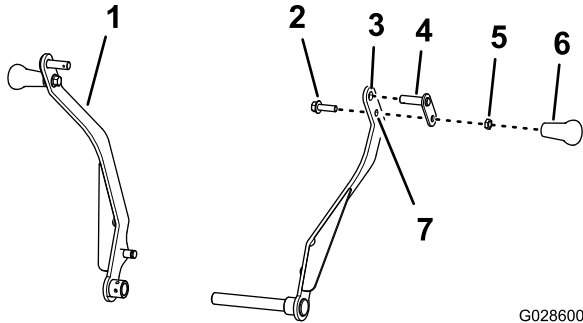

Figure 5
1. Assemble the pivot pin through the upper hole in the cradle arm (Figure 5).
3. Assemble the bolt (3/8 x 1-1/4 inch) through the lower hole in the cradle arm and the retainer of the pivot pin (Figure 5) with the jam nut (3/8 inch), and tighten the jam nut to 15 to 17 N·m (11 to 13 ft lb).
4. Thread the handle onto the bolt (3/8 x 1-1/4 inch) and tighten the handle against the jam nut and tighten the handle by hand (Figure 5).
5. Repeat steps 1 through 4 to the other cradle arm (Figure 5).